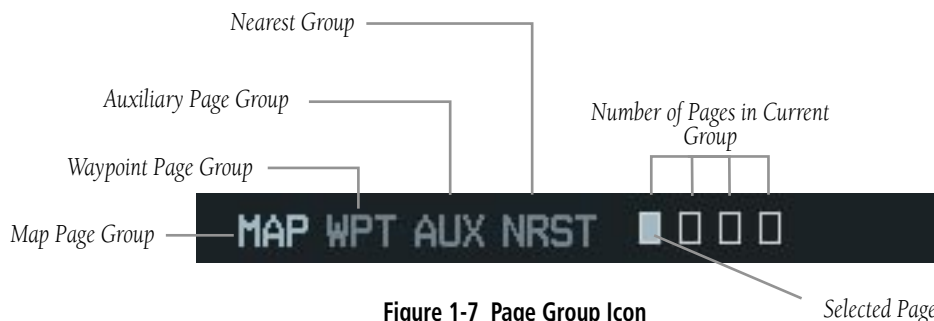

Figure 1-7 Page Group Icon
2. Turn the **small FMS** knob to select pages within the group. See Figure 1-7.